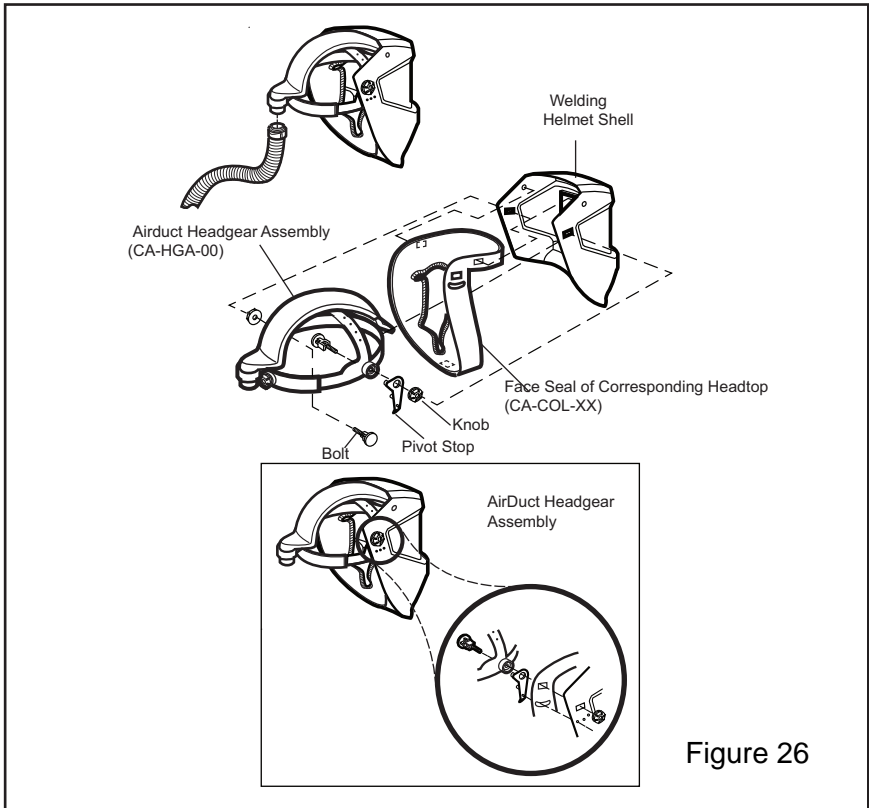

Figure 26
Step 3-5 refer to Fig. 26 insets